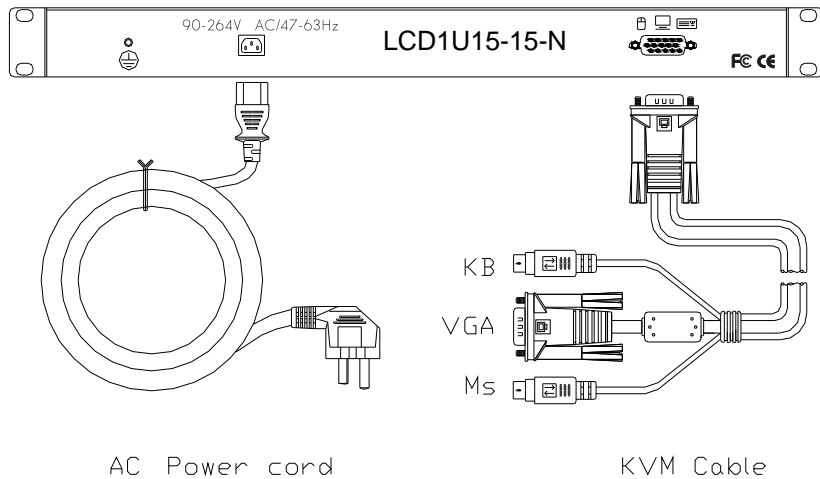

Fig.6
- * The AC power cord (for LCD1U15-15-N) plugs in power socketsee fig.6